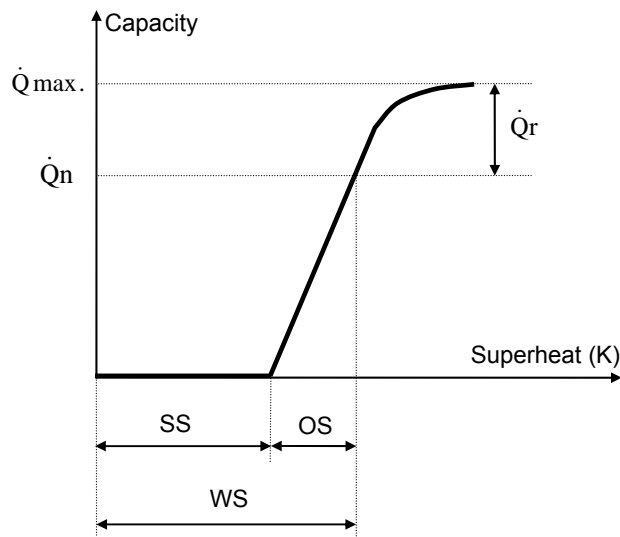

Fig. 2: Capacity – Superheat diagram
- Nominal capacity (\dot{Q}_n) is defined as the capacity given by the valve manufacturer at nominal rating conditions (see Fig. 2).